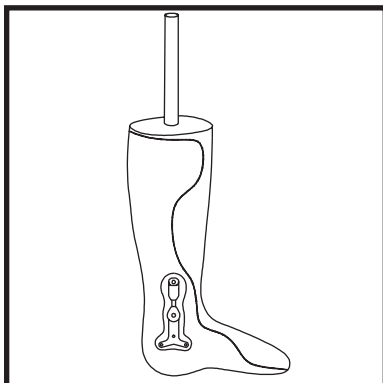

Figure 5
9. The PolyCar-C™ will appear soft and glazed when it is ready for molding and bonding. (Caution: The PolyCar-C™ will not bond if it gets too hot). After the PolyCar-C™ and ankle joint assemblies are heated sufficiently, position the ankle joint assembly on the PolyCar-C™ as shown in Figure 5. Leave in oven for 1-2 additional minutes.
11. Once the plastic has cooled, remove the plastic covering the alignment screw heads. With a cast saw rough trim the AFO following the desired anterior and posterior trimlines with exception of the area around the joints. Figure 5. (Caution: Care must be taken to avoid hitting the ankle joint or stirrup with the cast saw or other metal objects).